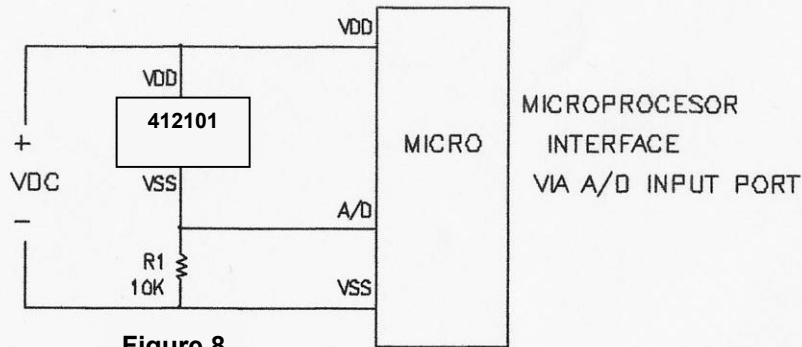

Figure 8
**Fig 8** shows an interface to a microprocessor. The voltage across R1 varies linearly with the illumination of the sensor. The current between the Vdd and Vss pins is approximately 1uA/lux, so with a 10K resistor the voltage at the A/D input will be 10mV per lux. The 412101 was designed for low lux applications and the headroom required between Vdd and Vss becomes a problem at higher lux levels. These parts are not ideally suited to control room lighting applications especially if the microprocessor supply voltage is low. For higher lighting applications such as the control of room ambient lighting or backlighting applications for TVs, computers or mobile phones a lower gain version is planned.